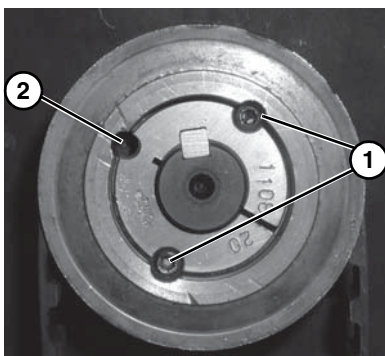

Figure 26
- Loosen taper-lock screws (**Figure 26, item 1**) and remove drive pulley: Insert one (1) of taper lock screws in remaining hole (**Figure 26, item 2**). Tighten screw until pulley is loose.